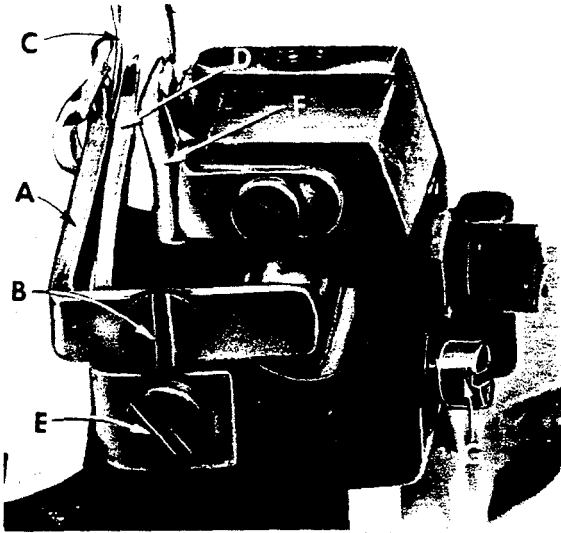

Fig. 5
Set the rear needle guard (A, Fig. 5) as high as possible without interfering with either the lower spreader or movement of the lower knife holder, but still in position to deflect the needle forward .002 to .004 inch. Screw (B) is used to set rear needle guard. Make sure there is no interference between rear needle guard and lower spreader.
Now complete the lower spreader adjustment. As lower spreader moves to the right its point should be set into the needle scarf (C, Fig. 5) until the needle springs forward from the rear needle guard surface another .002 to .004 inch. This setting
Assemble front needle guard (D, Fig. 5). When lower spreader is springing needle off rear guard, set the front needle guard as close as possible to the needle without touching. Screw (E) is used to adjust and set the front needle guard. After making this setting, assure there is no interference between needle guards and differential feed dog.
Insert rear needle guard into the hole in the throat plate support bracket. Set height of guard (F, Fig. 5) approximately 3/16 inch below the throat plate seat. Bring the 401 needle down until its point is 1/64 inch below the widest portion of the guarding surface. Then bring the guard forward to deflect the needle forward